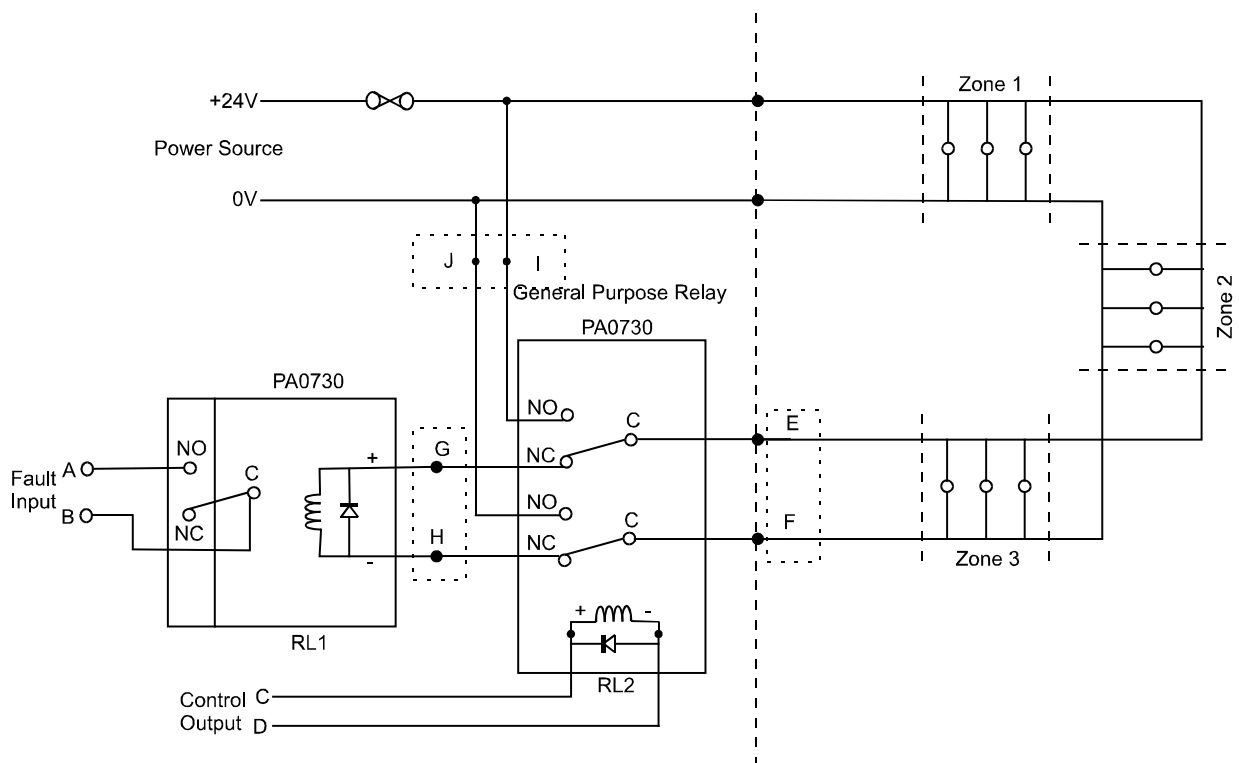
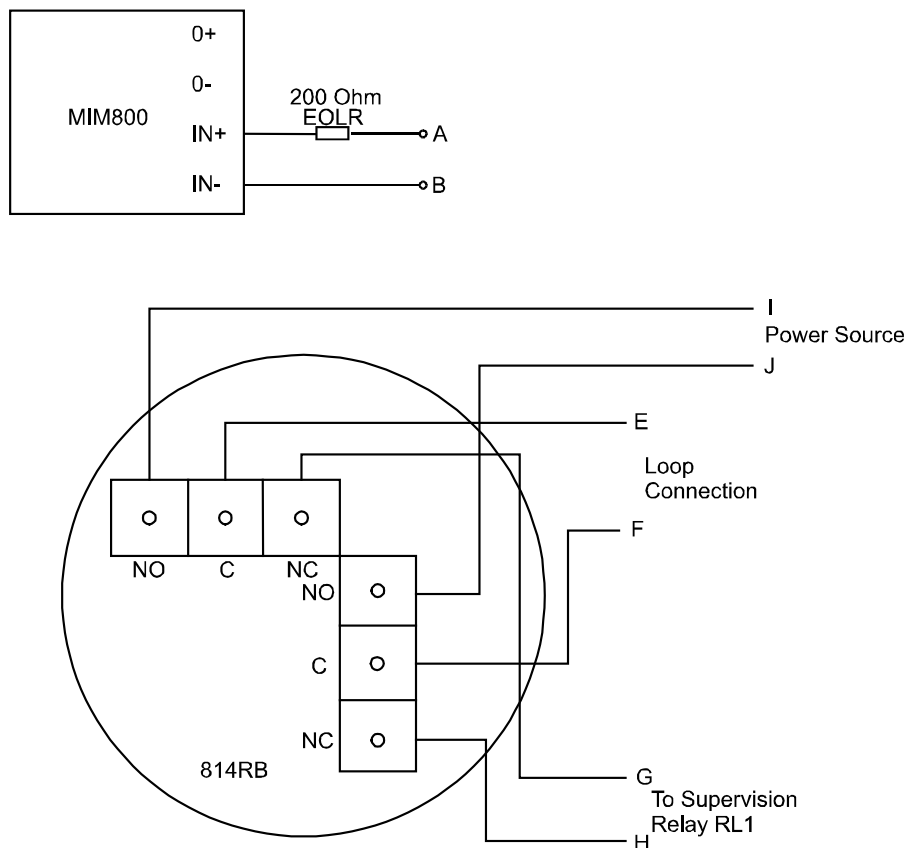

Figure 6.20 – General Supply Loop Arrangement for Multiple Devices in Multiple Zones
Figure 6.22 – Power Supply Loop Arrangement for MIM800 with an 814RB
One way to meet these requirements is to wire separate (fused or current-limited) power feeds for each zone, but this could increase the cabling costs. An alternative approach is to wire the power feed to multiple devices in multiple zones in a loop arrangement as shown in Figure 6.20.
Power is normally supplied from one end of the loop and the continuity (no open or short circuit) of the loop is verified by an energised relay (RL1 in Figure 6.20) at the opposite end of the loop.
**Note:** Connection points E, F, G, H, I, and J are for connection to the contacts of an 814RB Relay Base when this is used in place of RL2 in Figure 6.20.
The power supply loop arrangement shown in Figure 6.20 can be wired to a MIM800 for supervision and an 814RB for control as shown in Figure 6.22. The 814RB has dual changeover relays (rated at 1A @ 30VDC) so these can replace RL2 in Figure 6.20.